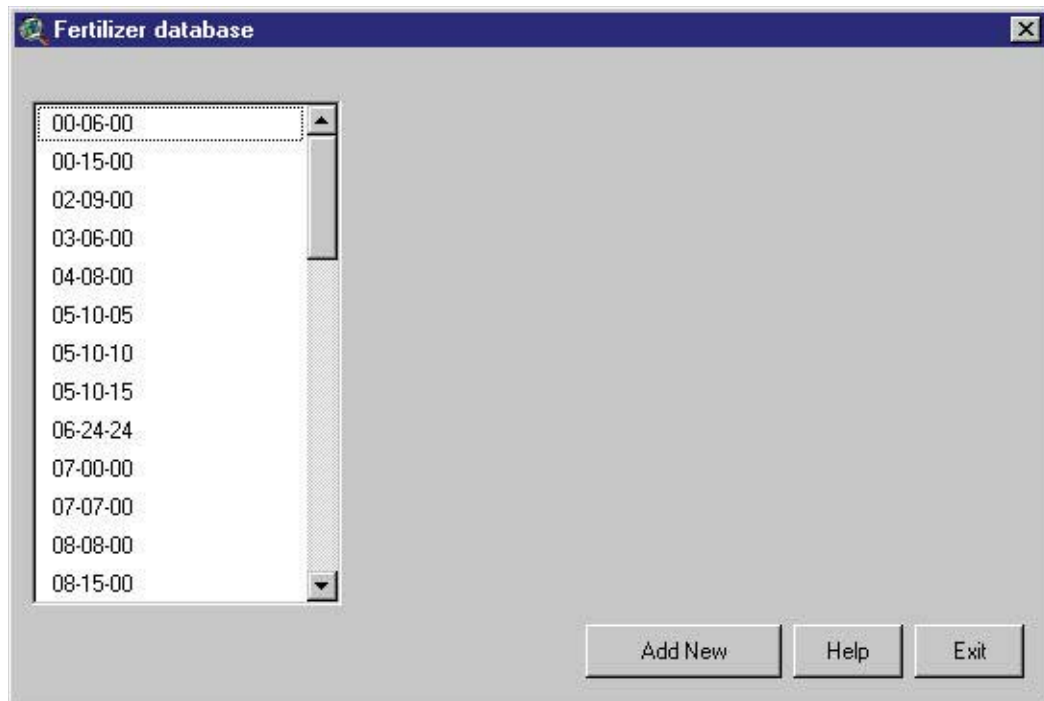

Figure 14.43
2. The Fertilizer database dialog box will be displayed (Figure 14.43)